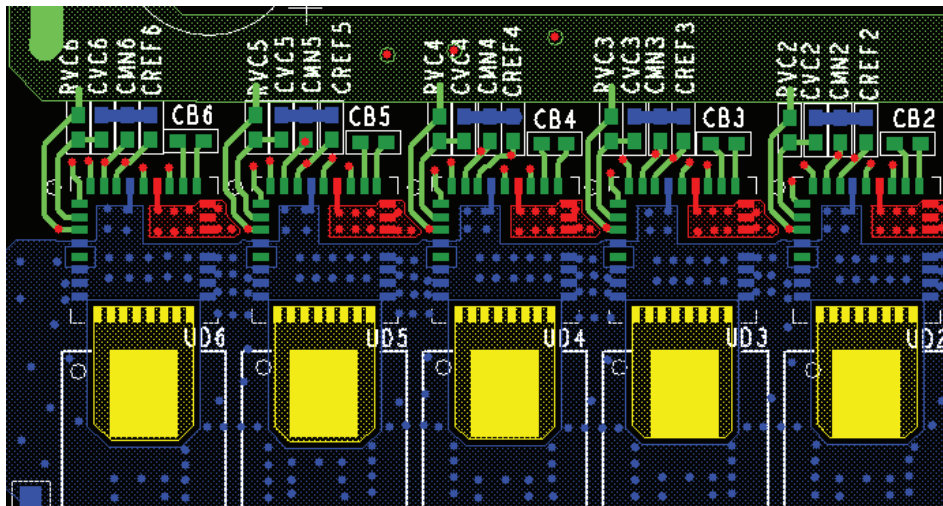
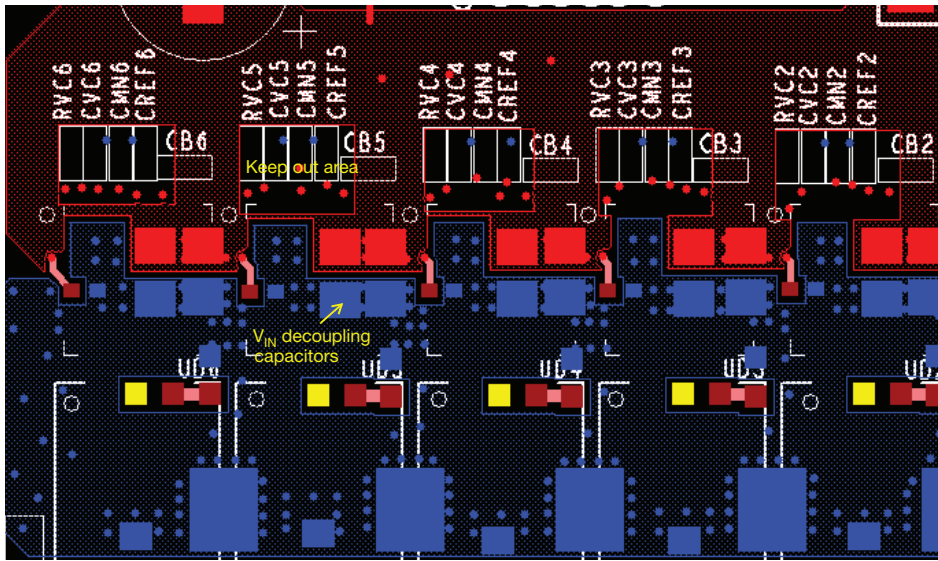

Fig. 17 - Multi-Phase PCB Layout Example Top Layer
Fig. 18 - Multi-Phase PCB Layout Example Bottom Layer
For a design with tight space requirements, these decoupling capacitors can be placed under the device, i.e., bottom layer, as shown in Fig. 18
- The I_{MON} and IREF network and their vias should not sit on the top of the V_{IN} plane, a keep out area is recommended, as shown in Fig. 18.
Fig. 17 and Fig. 18 show a multiphase PCB layout example.